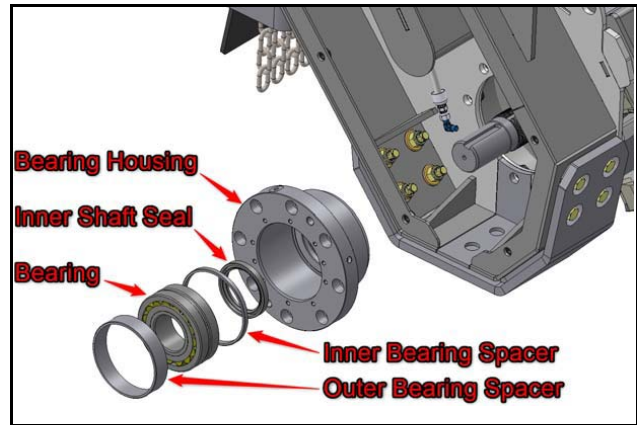

Figure 21
12. Pull the bearing housing completely out along with bearing and spacers still inside the housing. Note: The bearing housing opposite side to the drive belt has no bearing spacers inside [Figure 21].